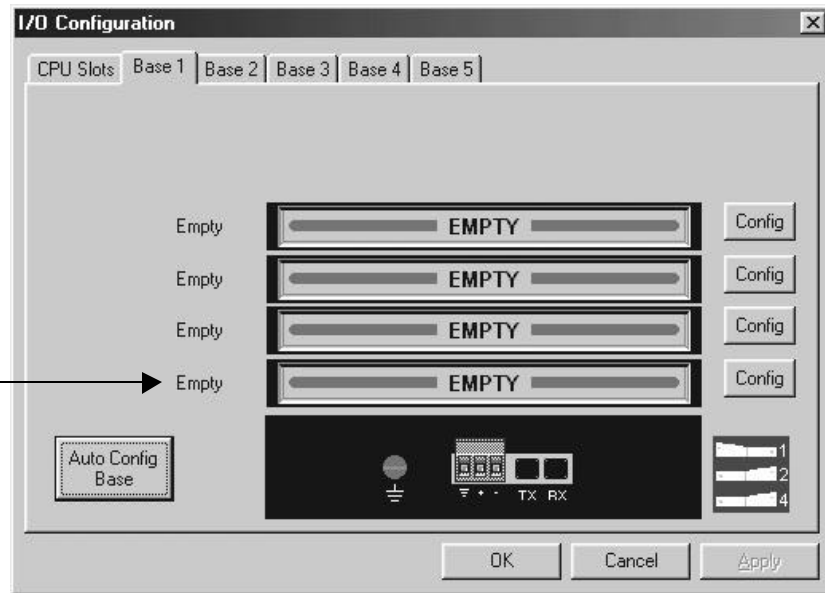

Figure 10.3 – Base 1 Selected
- Figure 10.3 appears. In this configuration example, I/O modules are going to be selected and configured for Base 1.